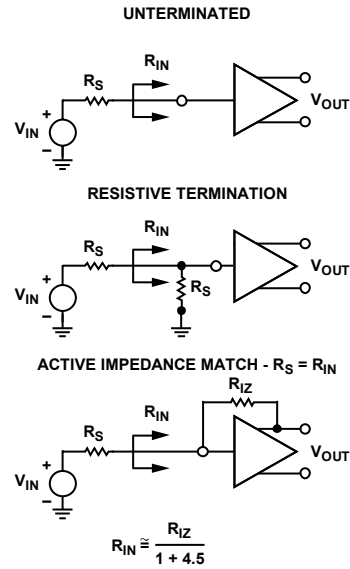
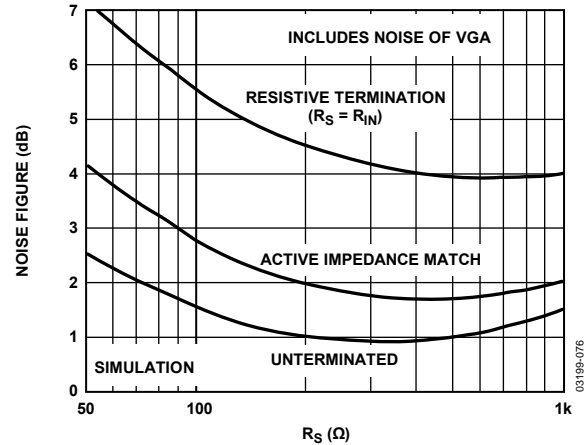
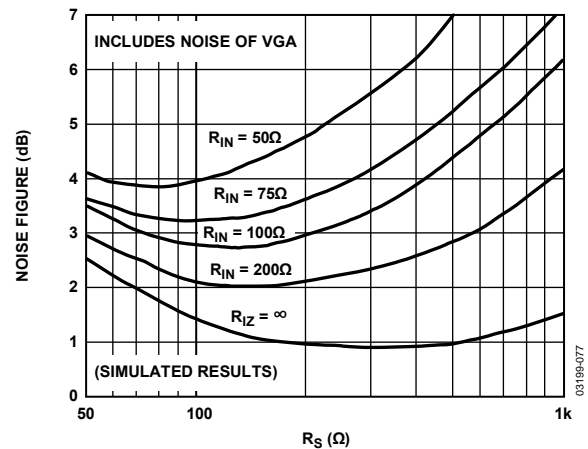

Figure 75. Input Configurations
Figure 76. Noise Figure vs. R_S for Resistive, Active Match, and Unterminated Inputs
Figure 77. Noise Figure vs. R_S for Various Fixed Values of R_{IN} , Actively Matched
The input-referred voltage noise sets an important limit on system performance. The short-circuit input voltage noise of the LNA is $0.74\text{ nV}/\sqrt{\text{Hz}}$ or $0.82\text{ nV}/\sqrt{\text{Hz}}$ (at maximum gain), including the VGA noise. The open-circuit current noise is $2.5\text{ pA}/\sqrt{\text{Hz}}$. These measurements, taken without a feedback resistor, provide the basis for calculating the input noise and noise figure performance of the configurations in Figure 75. Figure 76 and Figure 77 show simulations extracted from these results and the 4.1 dB noise figure (NF) measurement with the input actively matched to a $50\ \Omega$ source. Unterminated ($R_{IZ} = \infty$) operation exhibits the lowest equivalent input noise and noise figure. Figure 76 shows the noise figure vs. source resistance, rising at low R_S , where the LNA voltage noise is large compared to the source noise, and again at high R_S due to current noise. The VGA input-referred voltage noise of $2.7\text{ nV}/\sqrt{\text{Hz}}$ is included in all of the curves.
The primary purpose of input impedance matching is to improve the system transient response. With resistive termination, the input noise increases due to the thermal noise of the matching resistor and the increased contribution of the LNA input voltage noise generator. With active impedance matching, however, the contributions of both are smaller than they would be for resistive termination by a factor of $1/(1 + \text{LNA Gain})$. Figure 76 shows their relative NF performance. In this graph, the input impedance is swept with R_S to preserve the match at each point. The noise figures for a source impedance of $50\ \Omega$ are 7.1 dB, 4.1 dB, and 2.5 dB, respectively, for the resistive, active, and unterminated configurations. The noise figures for $200\ \Omega$ are 4.6 dB, 2.0 dB, and 1.0 dB, respectively.
Figure 77 is a plot of NF vs. R_S for various values of R_{IN} , which is helpful for design purposes. The plateau in the NF for actively matched inputs mitigates source impedance variations. For comparison purposes, a preamp with a gain of 19 dB and noise spectral density of $1.0\ \text{nV}/\sqrt{\text{Hz}}$, combined with a VGA with $3.75\ \text{nV}/\sqrt{\text{Hz}}$, yields a noise figure degradation of approximately 1.5 dB (for most input impedances), significantly worse than the AD8331/AD8332/AD8334 performance.